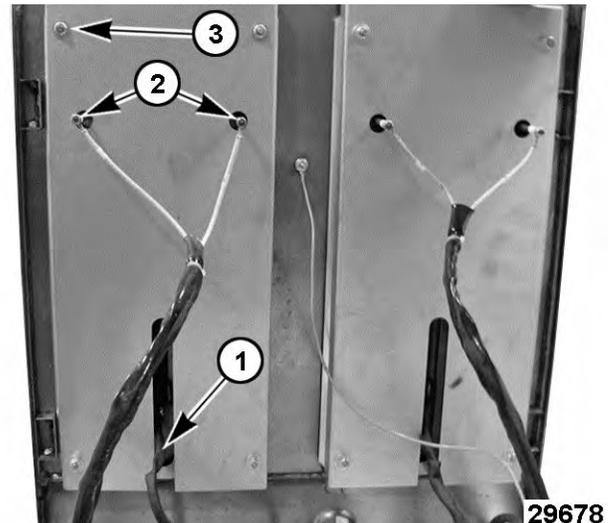

Fig. 21
2. Remove thermostat bulb from the angle iron weldment (1, Fig. 21) on the bottom of griddle plate.
3. Disconnect element wiring from heating element terminals (2, Fig. 21).
4. Remove mounting nuts (3, Fig. 21) securing griddle element cover to griddle plate.